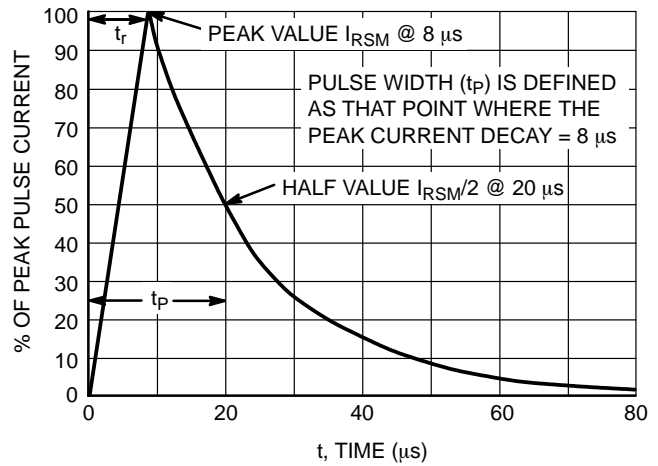

Figure 2.  $8 \times 20 \mu s$  Pulse Waveform
1. Non-repetitive current pulse per Figure 2
5. Surge current waveform per Figure 2